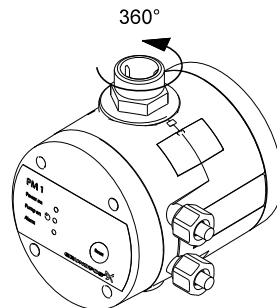

Fig. 1 Rotary outlet connection
The outlet connection of the unit can be rotated 360°. See fig. 1.
2. Carry out the electrical connection as shown in fig. 1 or 2, page 151, depending on motor type.